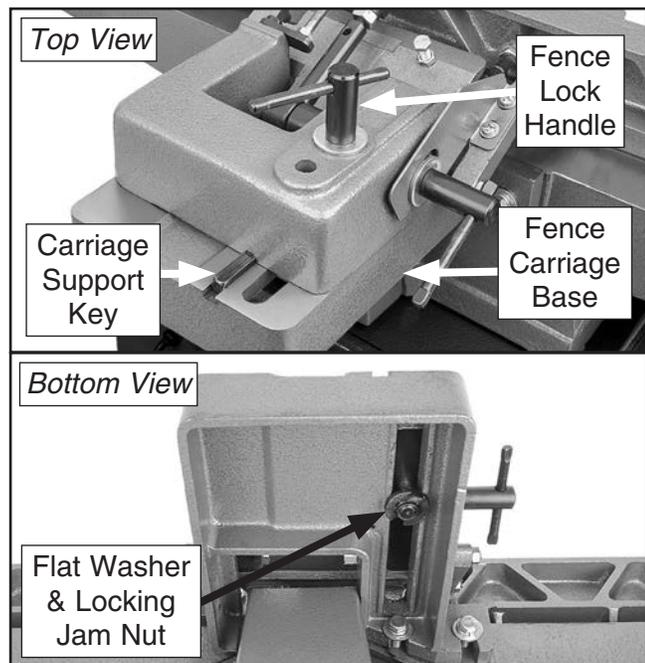

Figure 65. Fence component locations.
- Remove ½" flat washer and locking jam nut on fence lock handle, then remove handle and fence assembly (see **Figure 65**).
- Place fence onto fence carriage base, making sure fence fits over carriage support key (see **Figure 65**), then insert fence lock handle and secure with ½" flat washer and locking jam nut.